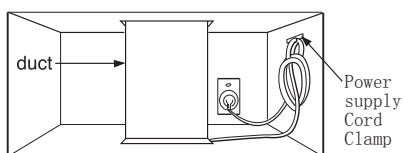

Figure 33
6. Use the power supply cord clamp to bundle the power supply cord. Install the power supply cord clamp, using a screw as shown in Figure 33, to inside of the cabinet.